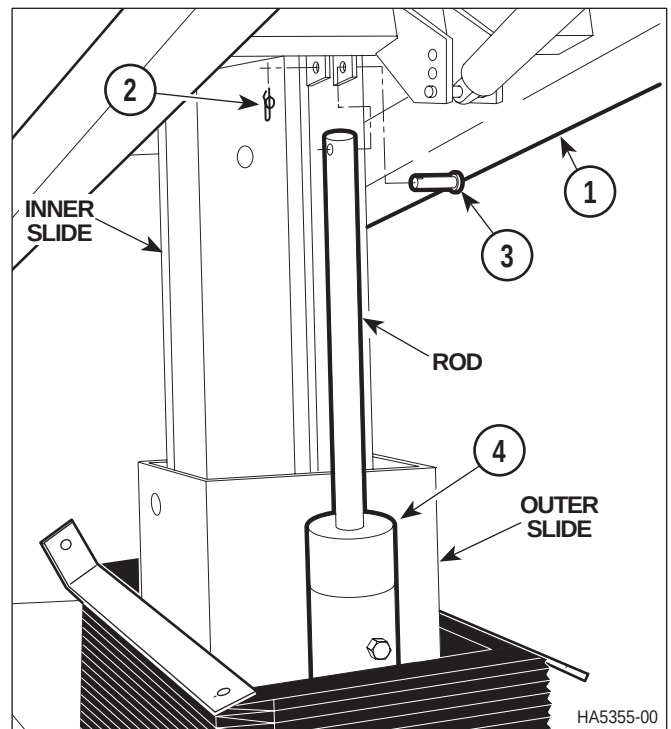

Figure 4-32. Litter Top Removal / Installation
- (1) Lower litter top (1, Figure 4-32) as far as it will go.
- (2) Lower bellows for access (Refer to para 4.3).
- (3) Remove rue ring (2) and clevis pin (3) which attaches litter top (1) to rod of elevation cylinder (4).